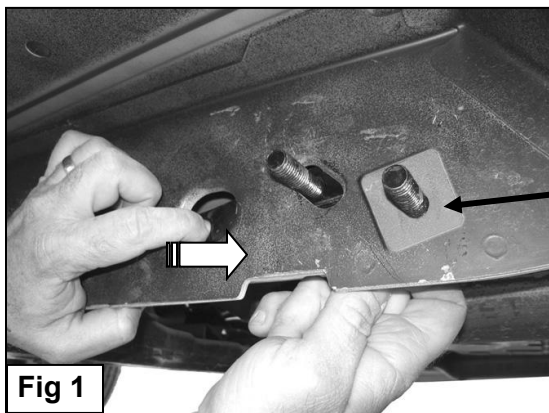

Fig 1
- Select the passenger side front Mounting Bracket and Support Bracket. Locate the three factory holes in the outside of the frame rail towards the front of the vehicle, (one large round, one oval, and one small round hole). Insert (1) M12 x 45 Bolt Plate into and through the large round hole and out the small round hole, **(Figure 1)**. Thread (1) 12mm Plastic Retainer onto the threaded end of the Bolt Plate until it is tight against the frame rail, **(Figures 1 & 2)**. The Plastic Retainer is designed to prevent the Bolt Plate from falling back into the frame rail and to aid in mounting the Bracket. Repeat this Step to install the 2nd Bolt Plate into the oval hole.